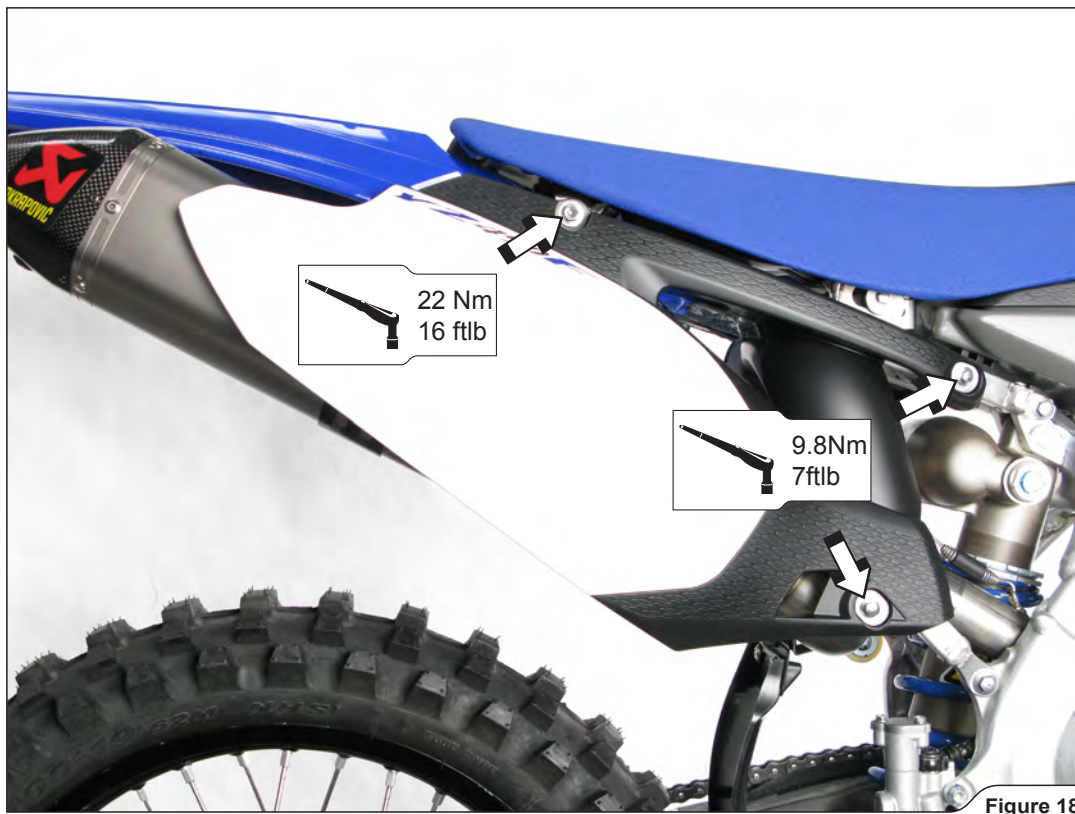

Figure 16
8. Position the muffler correctly and slide it onto the outlet side of the link-pipe and attach the **longer spring** (**Figure 16**).